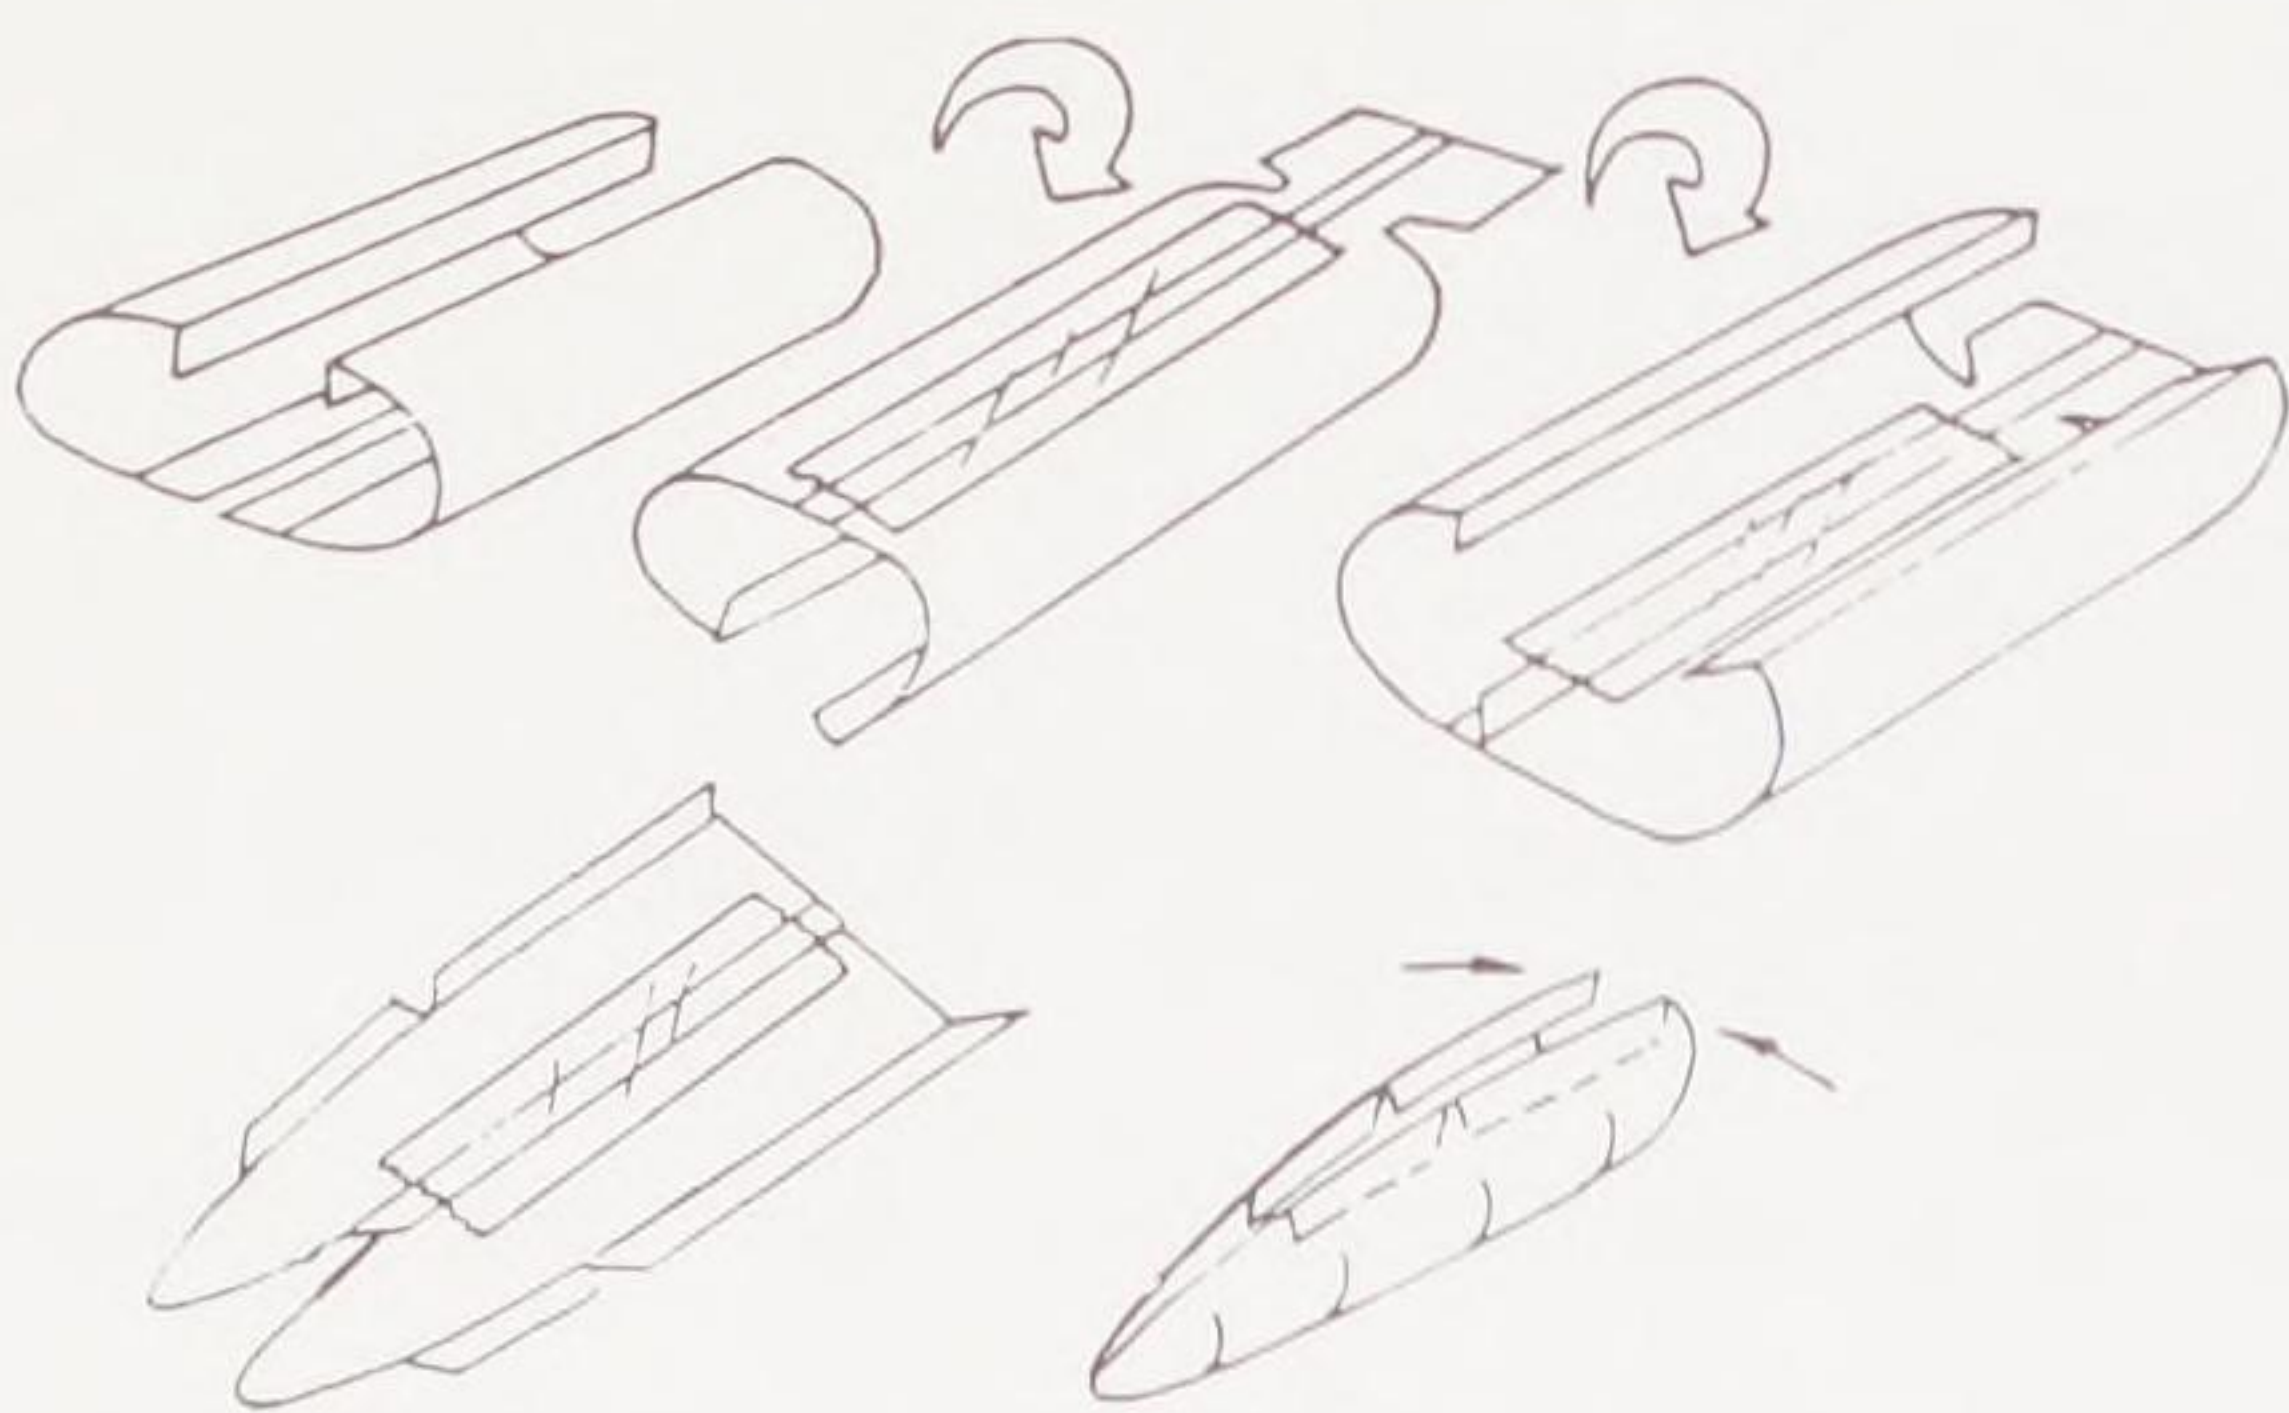

Fig. 18. Assemble the bottom of the four-piece fuselage first, including the inside of the overlap. The nose section is also started at the bottom.
- 3 Form the fuselage using the alignment marks provided. Attach the fuselage at the bottom first, then along the top. Tape all of the parts securely. Use care when cutting around the details of the lateral air intakes. (FIG. 18)